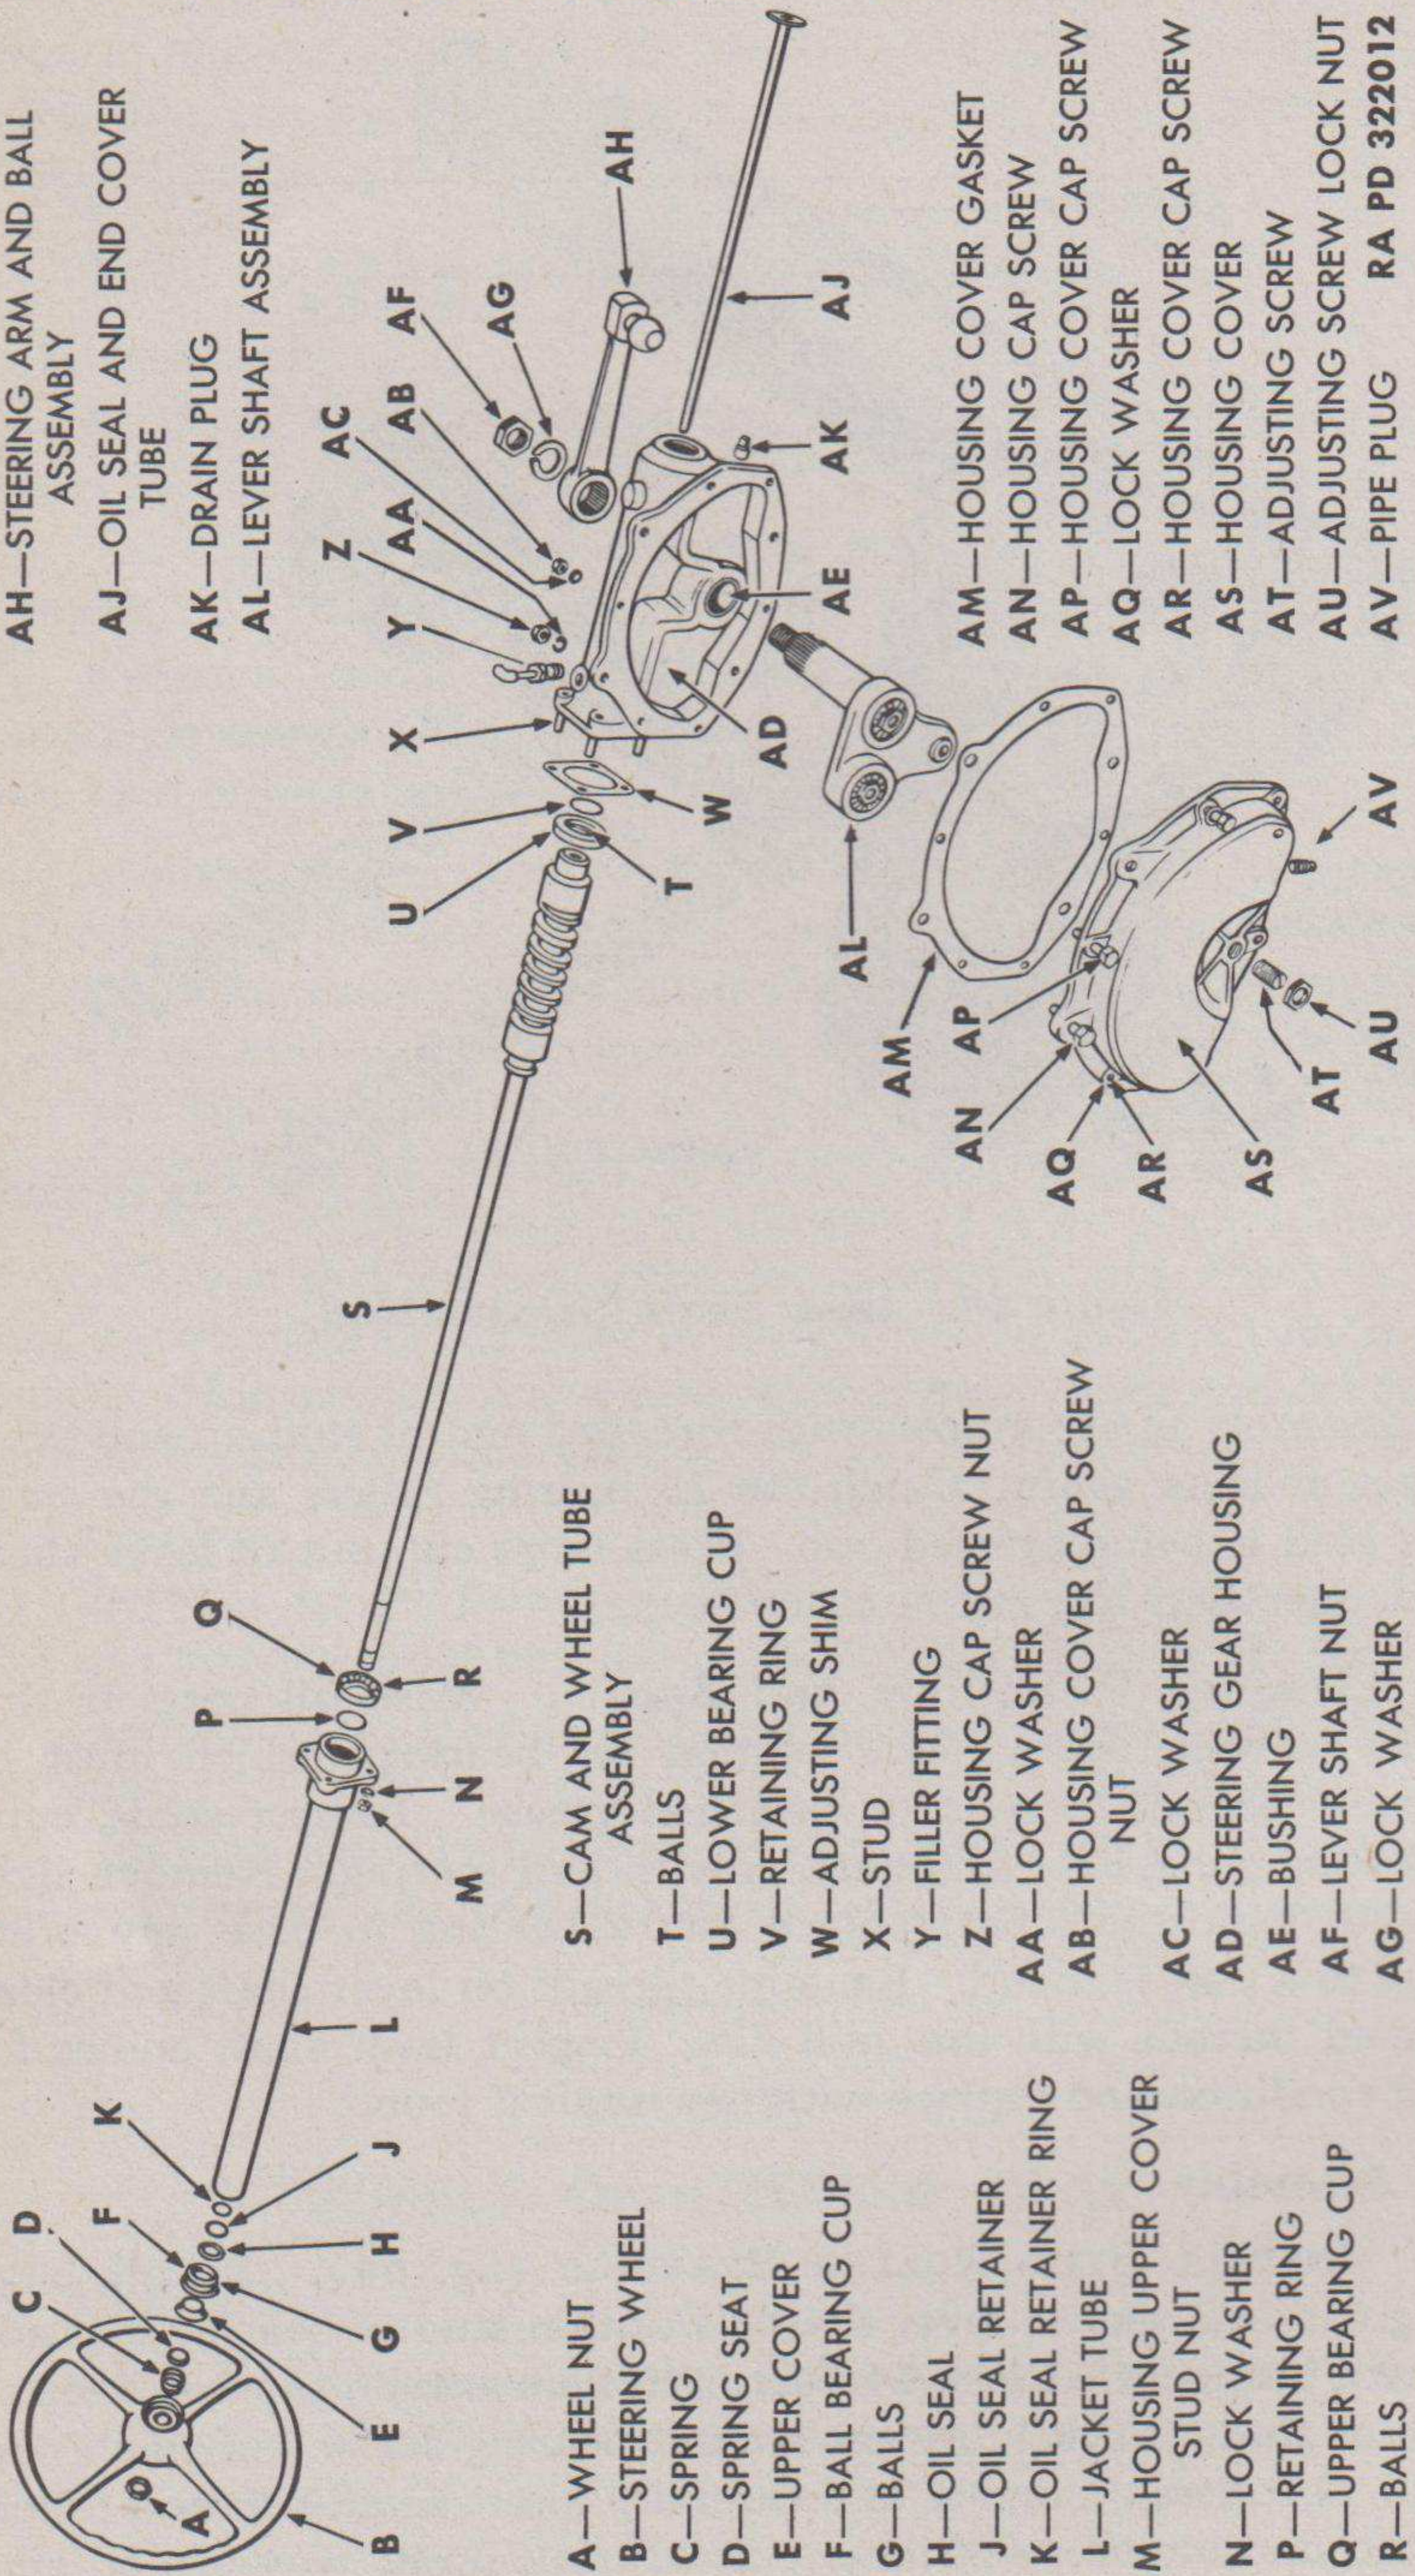

Figure 65 — Steering Gear Disassembled
a. **Remove Housing Cover** (fig. 65). Loosen adjusting screw lock nut. Back off adjusting screw about three turns. Remove cover cap screws, nuts, bolts, and lock washers. Lift off cover and cover gasket.
b. **Remove Lever Shaft Assembly** (fig. 65). Lift lever shaft assembly out of housing.
c. **Remove Top Cover and Jacket Tube Assembly** (fig. 65). Remove top cover stud nuts and lock washers. Lift jacket tube and top cover from steering gear housing. Lift cam bearing adjusting shims off housing and wheel tube.
(1) **REMOVE WHEEL TUBE BEARING.** Pull wheel tube bearing spring (C, fig. 65) and upper spring seat (D, fig. 65) out of top of jacket tube. Pry the wheel tube bearing cup (F, fig. 65) out of top of jacket tube. Pry snap ring (K, fig. 65) off lower spring seat. Pull off oil seal retainer (J, fig. 65) and oil seal (H, fig. 65). Lift out lower spring seat and balls (G, fig. 65) from bearing cup (F, fig. 65).
(2) **REMOVE CAM AND WHEEL TUBE ASSEMBLY.** Pull cam and wheel tube assembly (S, fig. 65) out of jacket tube (L, fig. 65).
(3) **REMOVE UPPER BALL CUP AND BALLS.** Remove retaining ring (P, fig. 65) from upper ball cup (Q, fig. 65). Lift out the 14 balls (R, fig. 65) and pull cup off wheel tube.
(4) **REMOVE LOWER BALL CUP AND BALLS.** Remove retaining ring (V, fig. 65) and 14 balls from lower ball cup (U, fig. 65). Slide lower ball cup off wheel tube.
(1) **INSTALL LOWER BALL CUP AND BALLS.** Slide lower ball cup (U, fig. 65) on lower end of wheel tube. Pack cup with lubricant and install 14 balls (T, fig. 65). Install retaining ring (V, fig. 65).
(2) **INSTALL UPPER BALL CUP AND BALLS.** Pack upper ball cup (Q, fig. 65) with lubricant and slide it on wheel tube. Install 14 balls (R, fig. 65) in ball cup. Install retaining ring (P, fig. 65).
(3) **INSTALL CAM AND WHEEL TUBE ASSEMBLY.** Slide cam and wheel tube assembly (S, fig. 65) into jacket tube (L, fig. 65).
(4) **INSTALL WHEEL TUBE BEARING.** Pack bearing cup (F, fig. 65) with lubricant. Place balls (G, fig. 65) in bearing cup. Install lower spring seat in bearing cup. Install oil seal (H, fig. 65)
and oil seal retainer (J, fig. 65) on lower spring seat. Install oil seal retaining ring (K, fig. 65) on lower spring seat. Press wheel tube bearing into top of jacket tube.
(1) **REMOVE END COVER AND OIL SEAL TUBE.** Tap lower end cover and oil seal tube (JJ, fig. 65) out of lower end of housing.
(3) **REMOVE LEVER SHAFT BUSHINGS.** Press inner and outer lever shaft bushings (EE, fig. 65) out of housing only if bushings are damaged or worn (subpar. c, below).
(1) **INSTALL LEVER SHAFT BUSHINGS.** Press new bushings (EE, fig. 65) into housing if old bushings were removed (subpar. b, above).
(3) **INSTALL END COVER AND OIL SEAL TUBE.** Install end cover and oil seal tube (JJ, fig. 65) into lower end of housing.
a. Install Top Cover and Jacket Tube Assembly (fig. 65). Position cam bearing adjusting shims on housing. Lift top cover and jacket tube assembly into position, inserting cam into housing. Attach top cover to housing with lock washers and stud nuts.
b. **Install Lever Shaft Assembly** (fig. 65). Lift lever shaft assembly into position in housing.
c. **Install Housing Cover** (fig. 65). Using a new gasket, attach housing cover to housing with cap screws, bolts, lock washers, and nuts.
b. **Adjust Upper and Lower Cup Ball Bearings on Cam** (fig. 65). Loosen housing side cover adjusting screw to relieve pressure of ball stud against grooves in cam. Turn steering wheel with thumb and forefinger. If more than a slight drag is felt, loosen the four upper cover plate hex nuts, lift cover plate up, and add thin shim.
c. Adjust Ball Stud for Backlash (fig. 65). Backlash of the stud in the cam groove shows up as end play of lever shaft and as backlash at steering wheel and ball on steering arm. Make adjustment with steering gear in midposition. Backlash in the end position is normal, and is not objectionable. Test for backlash by turning steering wheel slowly from one extreme position to the other. A slight drag must be felt in midposition. If no drag is felt, turn the adjusting screw clockwise. If too much drag is felt, turn adjusting screw counterclockwise. When adjustment is completed, lock adjusting screw in position by tightening adjusting screw lock nut. Recheck action by turning steering wheel. Connect drag link (TM 9-817).
d. Adjust Stud Roller Bearing Units (fig. 65). In some cases, it may be necessary to adjust the stud roller bearing units in the lever shaft. When properly adjusted, a heavy drag will be felt while turning the studs. To test and adjust units, remove housing side cover adjusting screw and lock nut. Then remove nuts, cap screws, and lock washers which attach side cover to housing, and lift off cover. Straighten prong of lock washer, and remove nut and washer from end of stud. Do not use washer again, but place new washer on stud and install nut. Hold lock washer with wrench to keep stud from turning and tighten nut. Turn stud by means of lock washer and wrench to test bearing adjustment. If stud turns freely, nut must be tightened. If stud can be turned but a heavy drag is felt, the adjustment is correct. Lock adjustment by bending a prong of washer over side of nut. Repeat operation to test and adjust other unit. Attach side cover to housing with lock washers, nuts, and cap screws. Insert adjusting screw and lock nut into position in housing side cover, and make the backlash adjustment as outlined in subparagraph c, above.